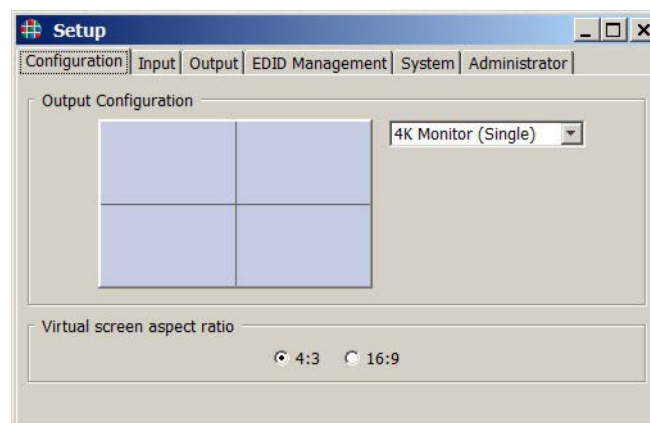

Figure 4-1 Setup Configuration Tab
2. Select the **Configuration** tab (Figure 4-1).